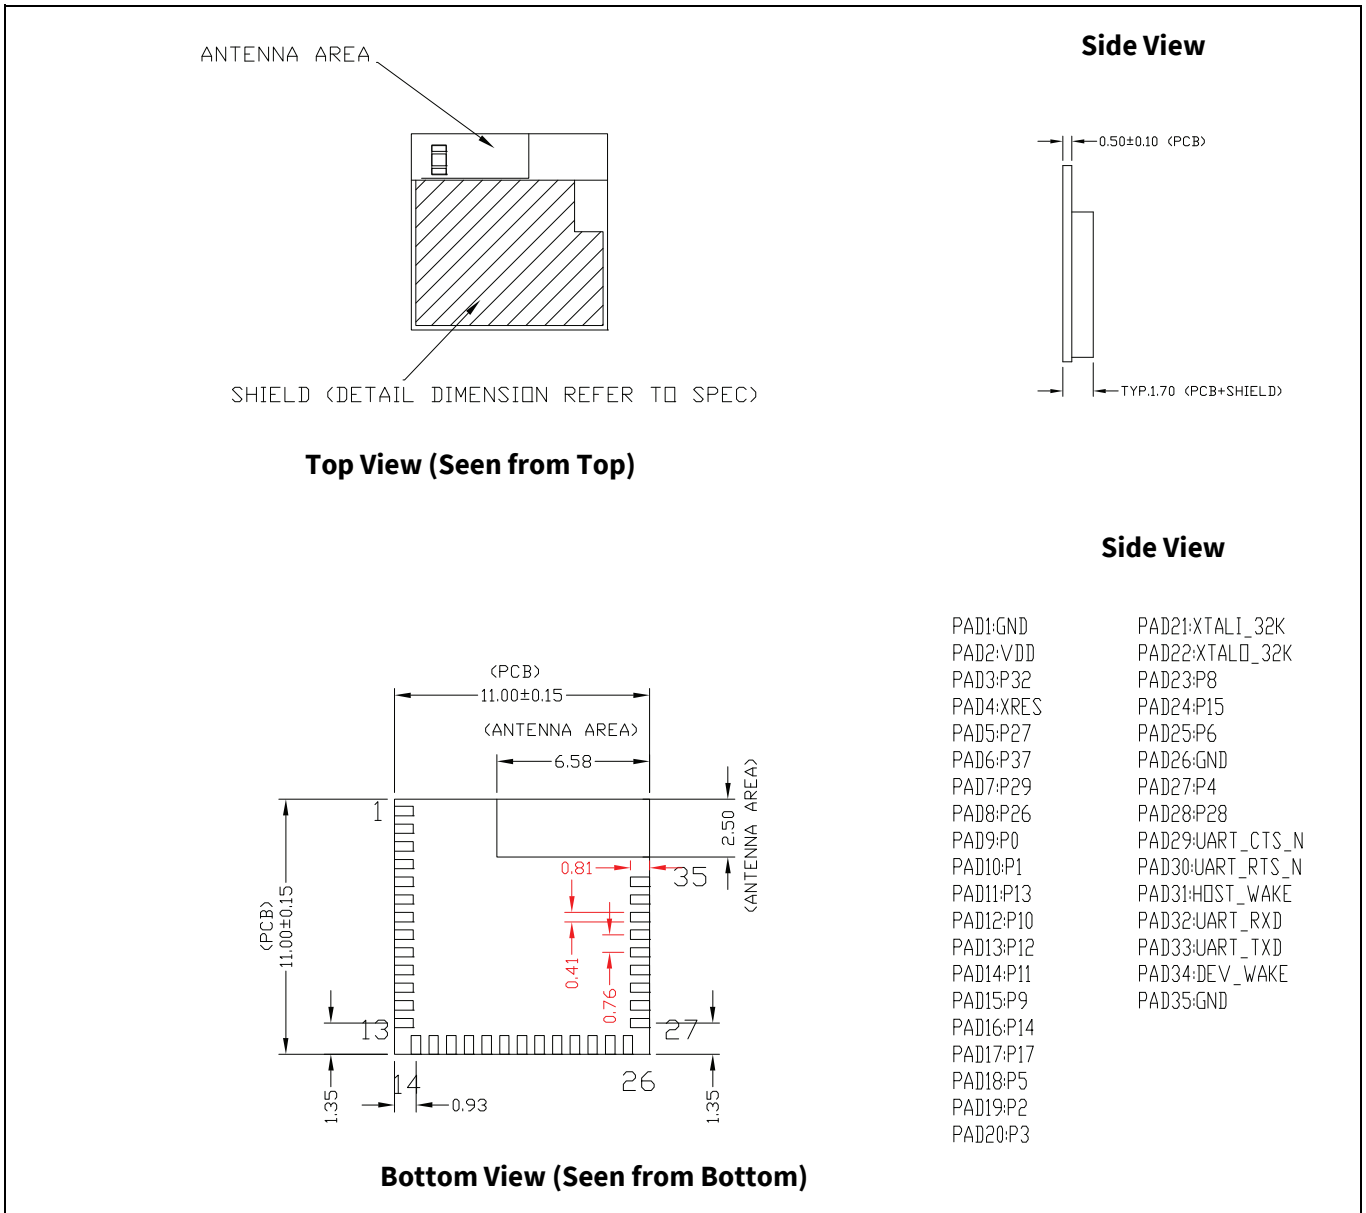
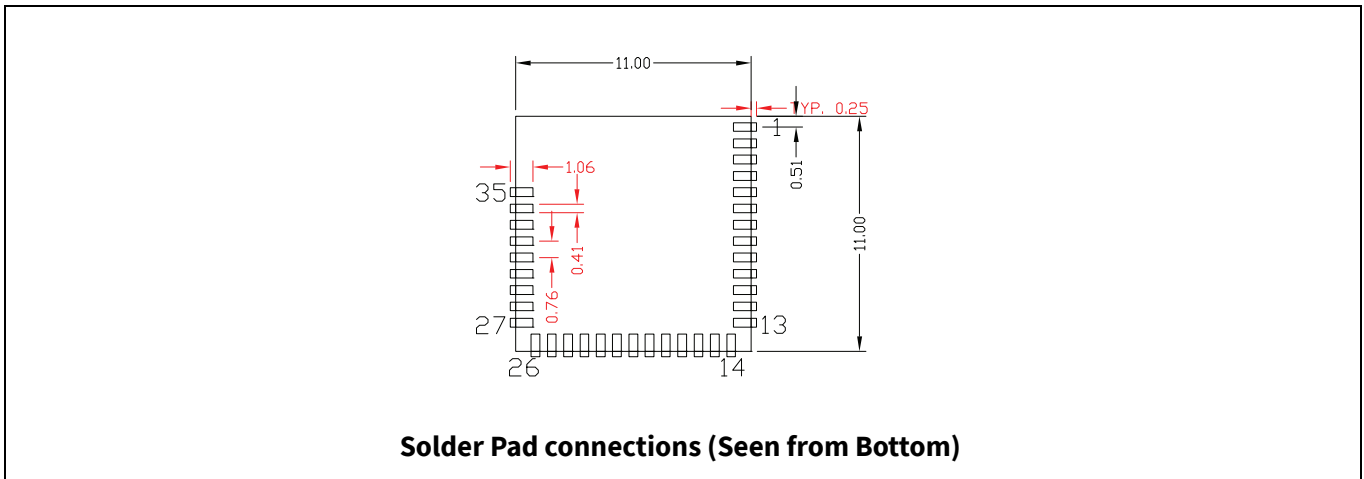
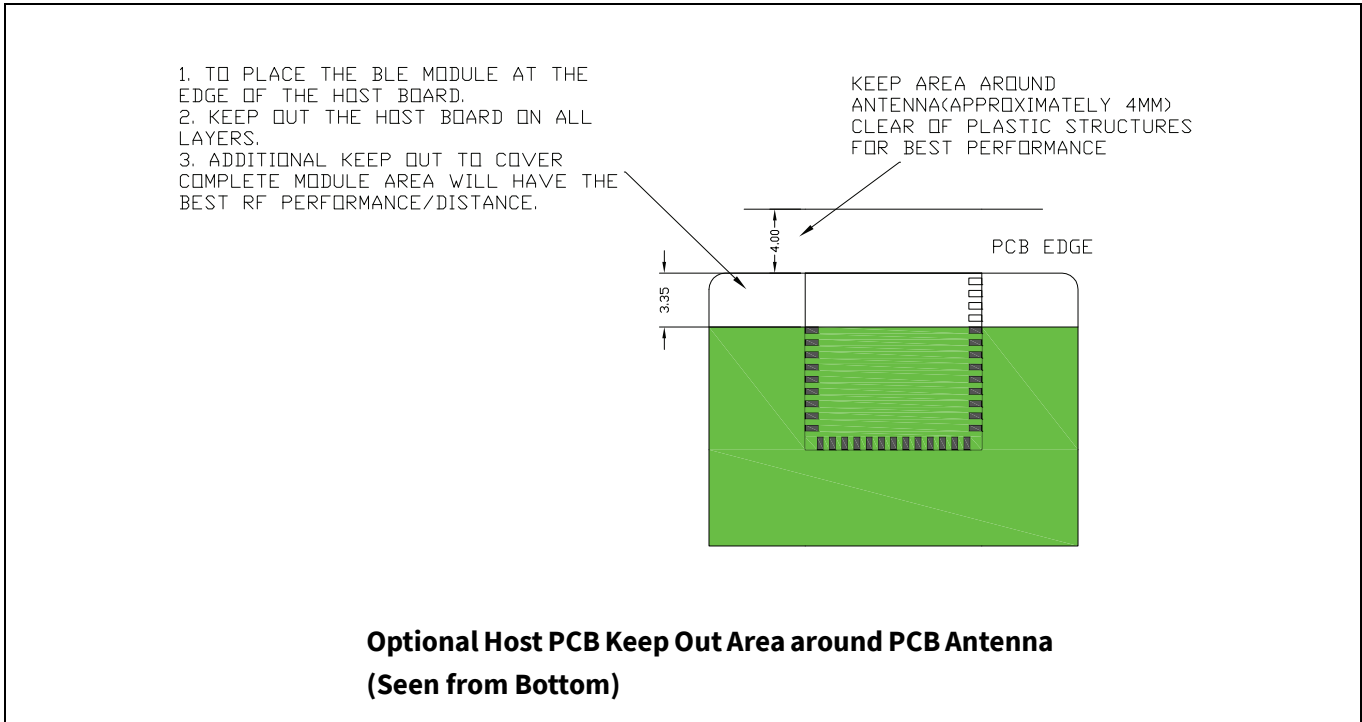

Figure 2 Module mechanical drawing
Figure 3 Solder Pad dimensions (Seen from Bottom)
Figure 4 Optional Additional Host PCB Keep Out Area around the CYBT-2x305x-02 PCB Antenna
Infineon reserves the right to select components from various vendors to achieve the Bluetooth® module functionality. Such selections will still guarantee that all mechanical specifications and module certifications are maintained. The CYBT-2x305x-02 will be held within the physical dimensions shown in the mechanical drawings in **Figure 2**. All dimensions are in millimeters (mm).
See **Figure 2** for the mechanical reference drawing for CYBT-2x305x-02.
As shown in the bottom view of **Figure 2**, the CYBT-2x305x-02 has 35 connections to a host board via solder pads (SP). **Table 2** and **Figure 3** detail the solder pad length, width, and pitch dimensions of the CYBT-2x305x-02 module.
1. Antenna Area Keepout: The host board directly below the antenna area of the Infineon module (see **Figure 2**) must contain no ground or signal traces. This keep out area requirement applies to all layers of the host board.
2. Module Placement: The ideal placement of the Infineon Bluetooth® module is in a corner of the host board with the PCB antenna located at the far corner. This placement minimizes the additional recommended keep out area stated in item 3 below. Refer to **AN96841** for module placement best practices.
3. Optional Keepout: To maximize RF performance, the area immediately around the Infineon Bluetooth® module PCB antenna may contain an additional keep out area, where there are no grounding or signal traces. The keep out area applies to all layers of the host board. The recommended dimensions of the host PCB keep out area are shown in **Figure 4** (dimensions are in mm).